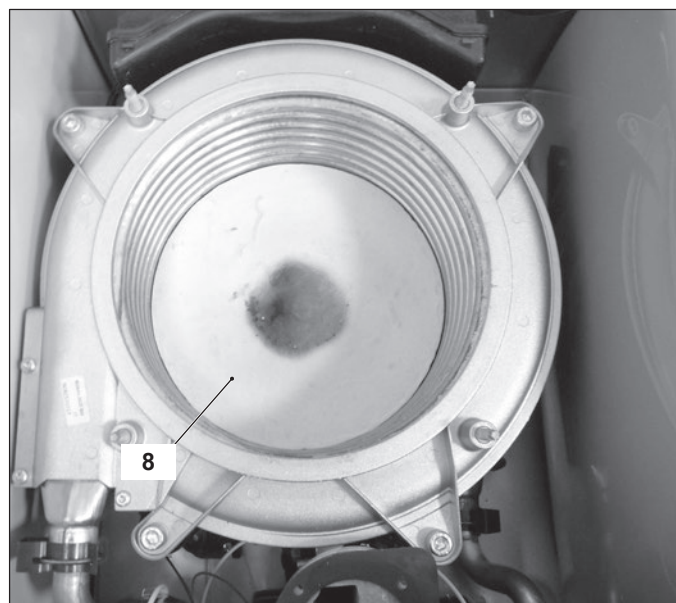

Figure 18.5
- 2 Remove the insulation "8" by pulling it towards the boiler front (Hung it with a screwdriver tip) (Figure 18.5).